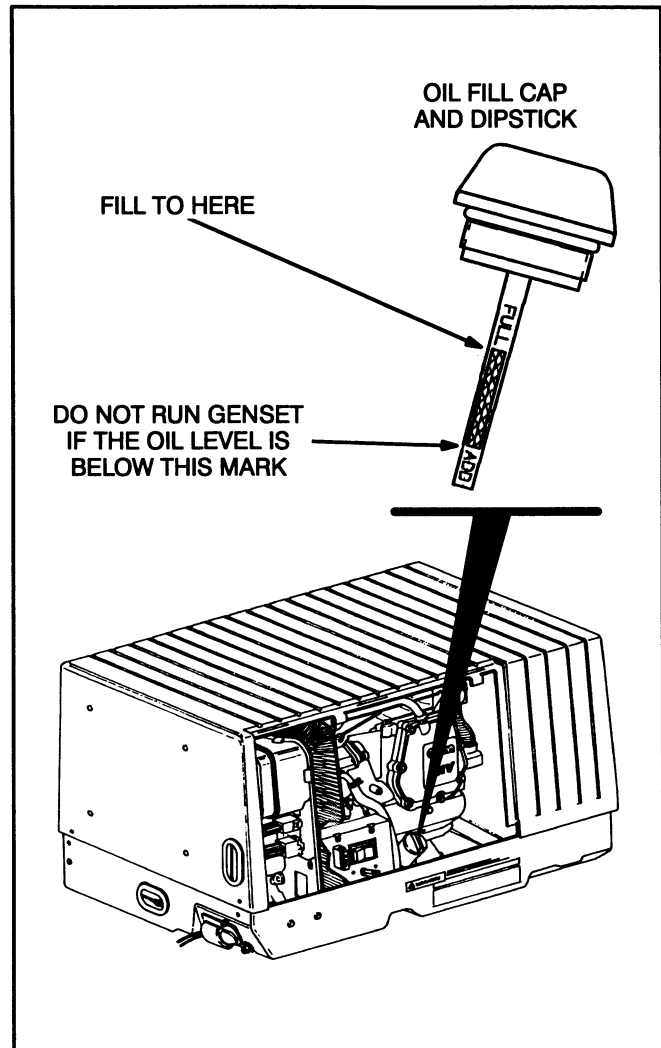

FIGURE 9. OIL LEVEL CHECK
1. Remove the oil fill cap/dipstick (Figure 9) and wipe it clean.
2. Remove the oil fill cap (Figure 9).